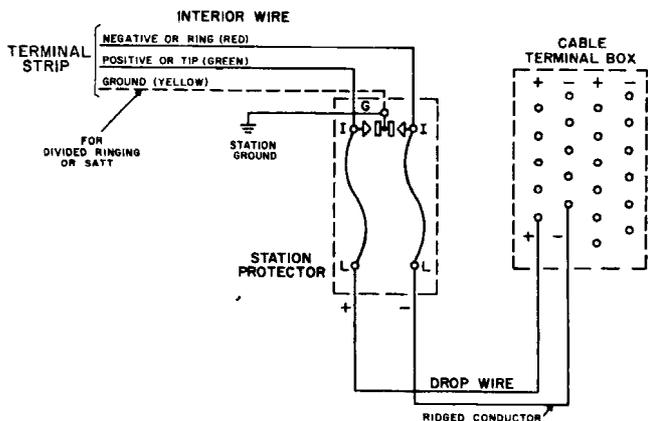
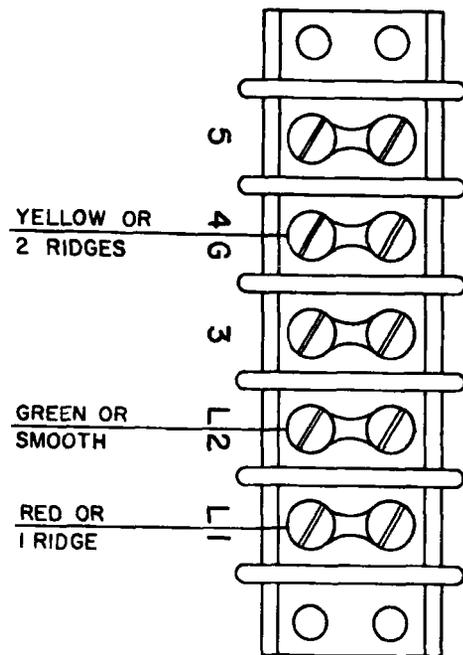

Figure 4. Typical connections to protector, cable terminals etc.
Figure 7. Terminal strip connections for party-line standard telephones rung on - line (ring) for SATT A or SATT B, or for superimposed.
Connection instructions in this bulletin assume the interior wires between the protector or a P-B-X switchboard or similar equipment and the telephone location in the subscriber's premises have their polarities identified by standard tracers as shown in figure 4. Line polarity is important in divided-ring stations, and in SATT installations.
**Divided ringing on the - (ring) line.** For divided ringing on the - (ring) line move the black capacitor lead from terminal strip position L2 to 4G as shown in figure 28. Then connect the line wires as shown in figure 7.
**Bridged ringing.** The telephone is shipped wired for bridged ringing as shown in figure 28. The brown lead from the dial must be connected to terminal strip position 4G. Connect the line wires as shown in figure 7.
(figure 28). Connect the line wires as shown in figure 7.
Divided ringing on the - (ring) line. For divided ringing on the - (ring) line move the black capacitor wire from terminal strip position L2 to 4G (figure 28). Connect the line wires as shown in figure 7.
Check that the party identity pulse will be on the + line. At the terminal strip, attach the clips of a hand-test telephone (such as A. E. Co. L-965-A2) to L1 and L2. Press test telephone button C, and with the subscriber's handset on the hook, dial 0 on the subscriber's dial. As the dial returns, listen at the test telephone. If no click is heard, the subscriber's telephone is connected correctly. If one or more clicks are heard, reverse the interior wires at telephone terminals L1 and L2 (figure 7) or reverse drop wires at the protector (figure 4).
Connect the line wires as shown in figure 7. Then, to replace the plastic housing, hook it over the top edge of the telephone baseplate, tighten the housing screw located near the bottom of the housing. Stamp the directory number on the number card as described in section 3.7.1 or 3.7.2. Then call the central office for a ringing test, etc.